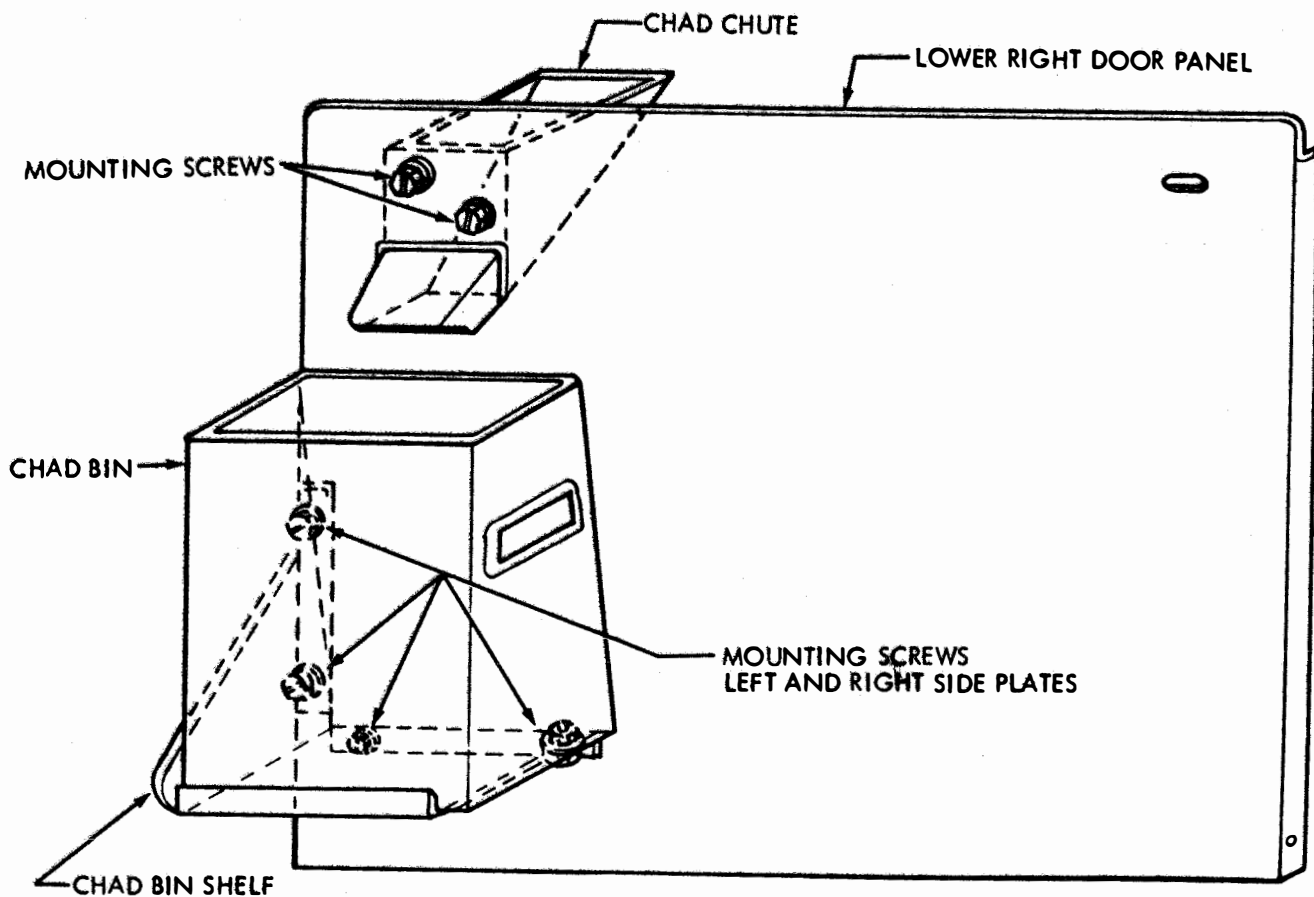

Figure 6-357. Chad Chute and Chad Bin Assemblies
(1) Refer to Figure 6-357.
(2) Cabinet door should close without interfering